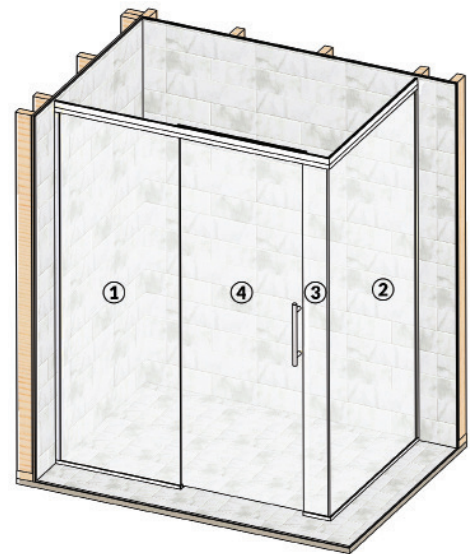

FIG 5.
- When panels are correctly aligned, remove panel 1 (**FIG 5**)